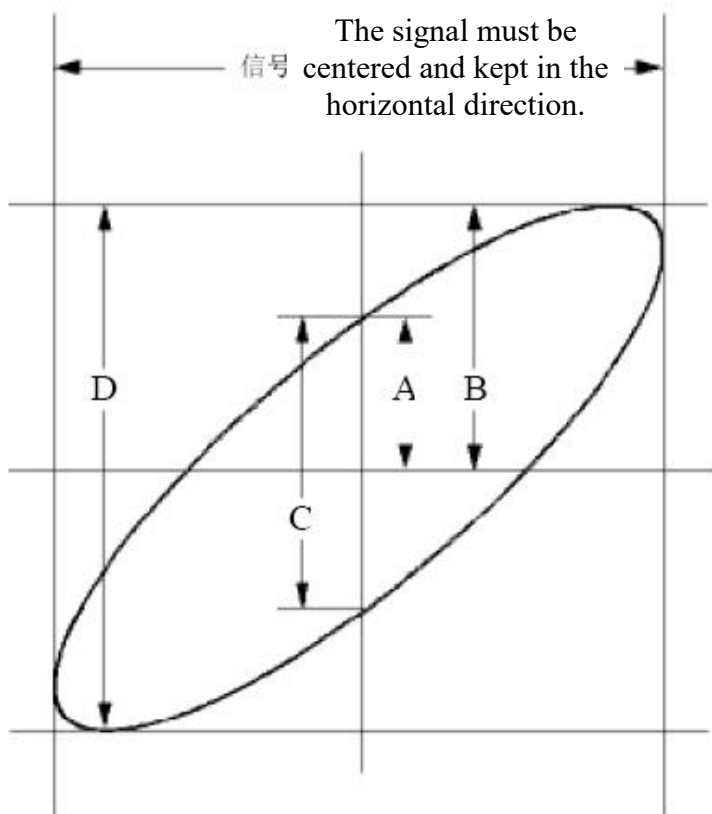

Figure 6-6 Lissajous Graph
(1) Set the probe menu attenuation coefficient for **10X** and that of the switch in the probe for **10X** (see "*How to Set the Probe Attenuation Coefficient*" on P19).
- (2) Connect the probe of channel 1 to the input of the network and that of Channel 2 to the output of the network.
- (3) Push the **Autoset** button, with the oscilloscope turning on the signals of the two channels and displaying them in the screen.
- (4) Turn the **Vertical Scale** knob, making the amplitudes of two signals equal in the rough.
- (5) Push the **Acquire** button to display the right menu.
- (6) In the right menu, select **XY Mode** as **ON**. The oscilloscope will display the input and terminal characteristics of the network in the Lissajous graph form.
- (7) Turn the **Vertical Scale** and **Vertical Position** knobs, optimizing the waveform.
- (8) With the elliptical oscillogram method adopted, observe and calculate the phase difference (see *Figure 6-6*).